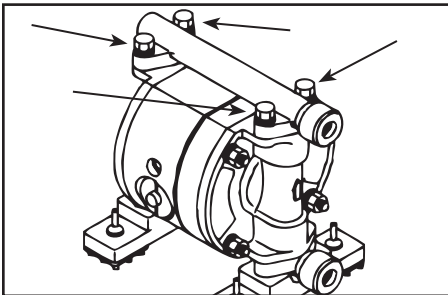

Figure 16
- Remove the retainer bolts from the out manifold, and remove the out manifold (See Figure 16).